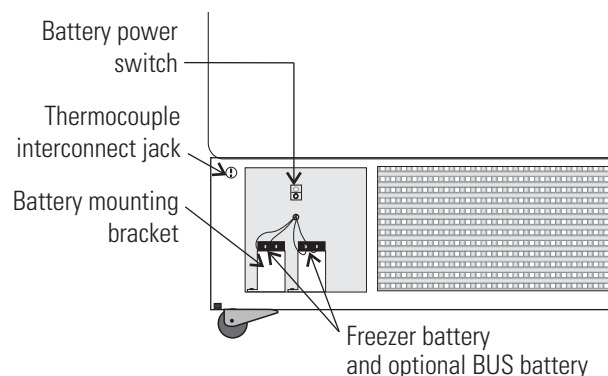

Figure 4-1. Component Locations
2. Locate the grille on the door. See Figure 4-1. Grasp the middle of the grille material and gently pull out to remove.
3. Turn off the battery switch (O). See Figure 4-1.